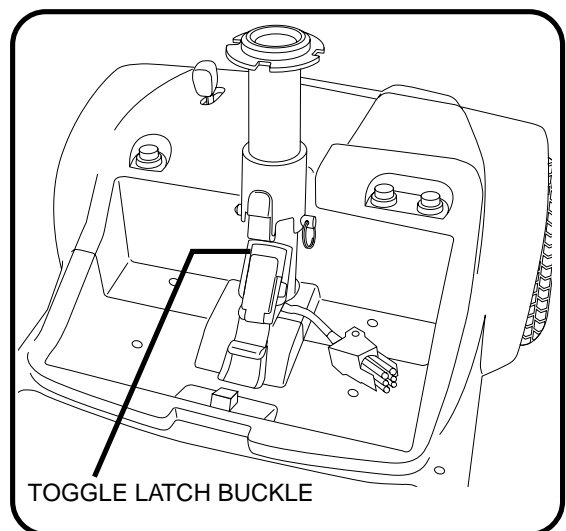

Figure 15A. Toggle Latch (Unlatched)
2. Rotate the toggle latch buckle over the top of the toggle latch until it snaps into its retainer. **See figure 15A.**